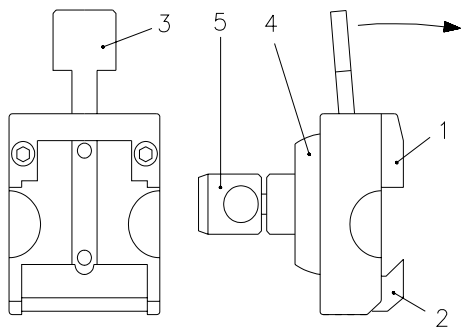
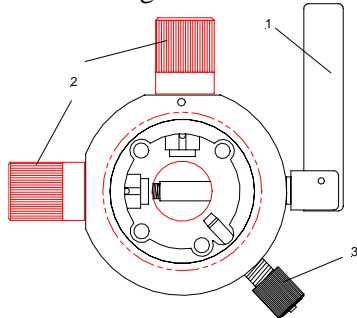

Fig. 7b
Fig. 12b
Using the orienting adapter (fig. 12b) fasten the specimen clamps on the feed cylinder. This allows the specimen to be aligned in relation to the knife.
To bring the specimen into the desired position, turn the eccentric lever (fig. 12b.1) to the front. This will loosen the specimen clamp and a rotation of 360° on the cylinder axis (Z-axis) is possible. With the two adjusting screws (fig. 12b.2) the specimen clamp can be oriented by 8° in each direction on the X-axis and Y-axis.
Before starting cutting, press the eccentric lever (fig. 12b.1) upwards to fix the orientation of the specimen.
**NOTE!** When the adjusting knobs (fig. 12b.2) for specimen orientation are used, a slight lock-in position can be noticed during each rotation. The entire adjusting range includes two rotations in either direction. The middle lock-in position marks the zero position.
**NOTE!** To avoid undesirable movement while adjusting the specimen, press the eccentric lever (fig. 12b.1) upwards slightly. This will lightly hold the specimen clamp.
**CAUTION!** The spring bolt (fig. 12b.3) must always be tightened to keep the adjusting screws under constant tension.
To change a specimen clamp, press the eccentric lever (fig. 12b.1) downwards and pull it sideways in the direction of the arrow. Slightly unscrew the two adjusting screws (fig. 12b.2) as well as the spring bolt (fig. 12b.3).
Insert the new specimen clamp into the specimen holder so that the clamping lever can be put through the hole of the adapter (fig. 7b.5) from the right side all the way through. Tighten spring bolt (fig. 12b.3). Then align the specimen clamp by means of the orienting screws (fig. 12b.2). Then press the clamping lever (fig. 12b.1) upwards (see 2-11-4, readjusting specimen clamps).
Frequent use of the clamping lever (fig. 12b.1) can lead to the fact that the specimen clamps cannot be clamped optimally anymore. If the necessary readjustments are not carried out, it might even be possible that the specimen clamp cannot be clamped anymore by means of the clamping lever (fig. 12b.1).
The clamping lever (fig. 12b.1) should be in an almost upright position. To determine the clamping position of the clamping lever, adjust the inner screw (fig. 13.1) on the rear side of the orienting adapter by means of an Allan key (size 3 mm).